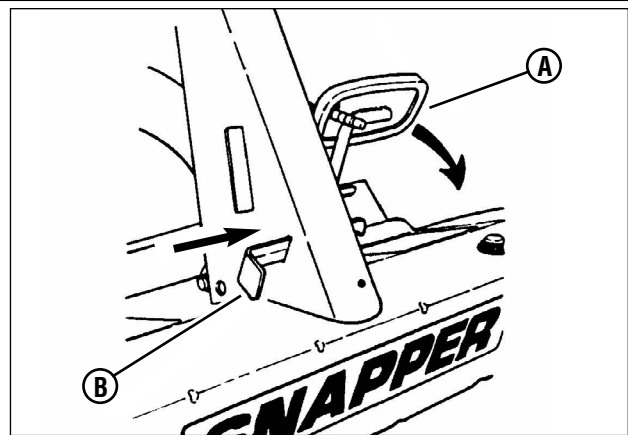

Figure 8: Setting the park brake
4. Press the Clutch/Brake Pedal (A, Figure 8) all the way down, move the park brake latch (B) over, and release the clutch/brake pedal to set the park brake.